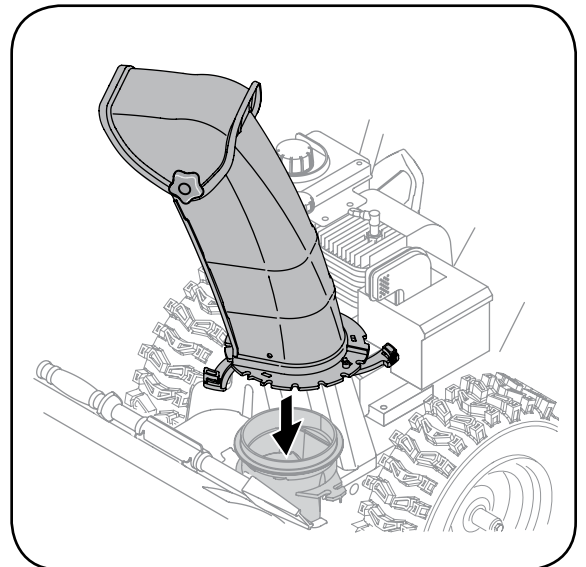

Figure 3-3
4. Position the chute assembly over the base, see Figure 3-3.